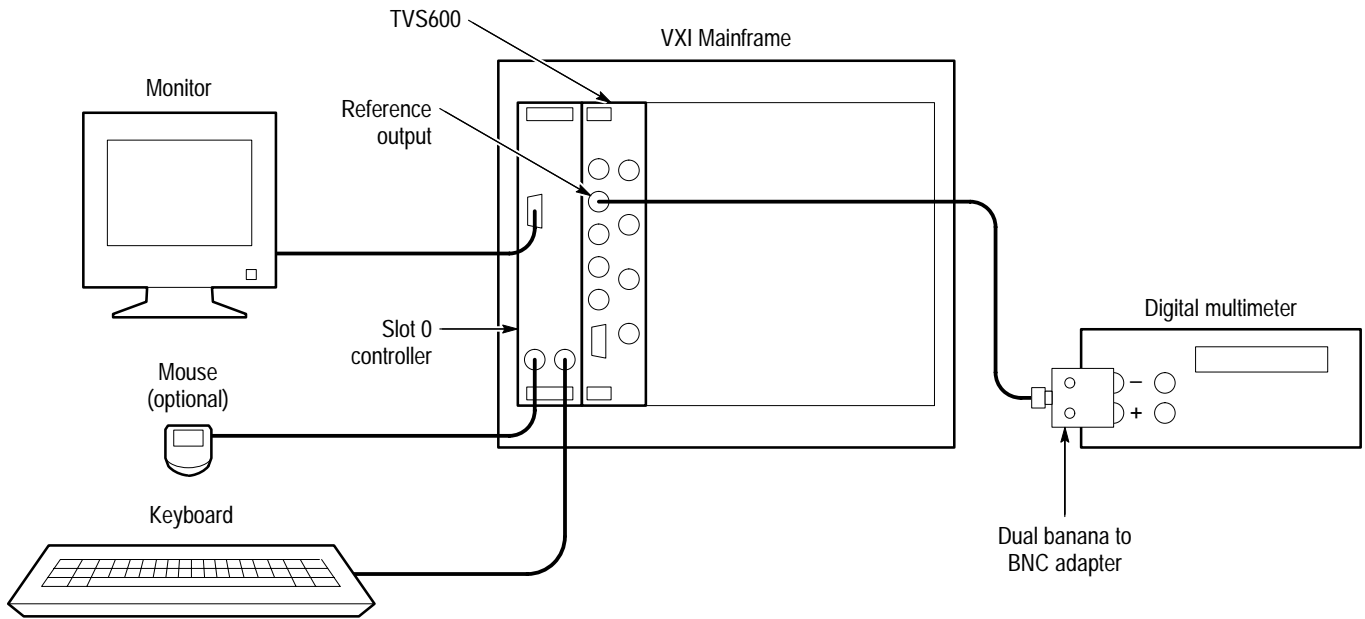

Figure 4–3: Voltage reference test setup
The *Incoming Inspection Procedure* is designed for a VXIbus system that contains an embedded Slot 0 controller. During the procedure you will communicate with the waveform analyzer using talk/listen software such as *Tektronix TVS600 Soft Front Panel*, a standard accessory for the waveform analyzer. Figure 4–1 on page 4–5 shows a typical setup.
1. Use a coaxial cable and dual-banana to BNC adapter to connect the digital multimeter input to the REFERENCE OUTPUT connector (see Figure 4–3).